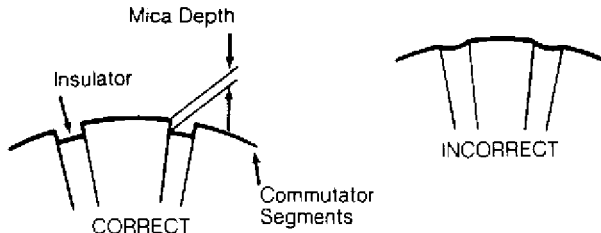

Fig. 6: Measuring Depth Of Commutator Segment Grooves
4) Measure depth of insulator grooves between commutator segments. See Fig. 6. On Swift and Swift GT (A/T), standard depth is .0196-.031" (.5-.8 mm). Minimum depth is .0078" (.2 mm). On all GT (M/T), minimum depth is .0078" (.2 mm). If measurement is less than minimum depth, replace commutator.